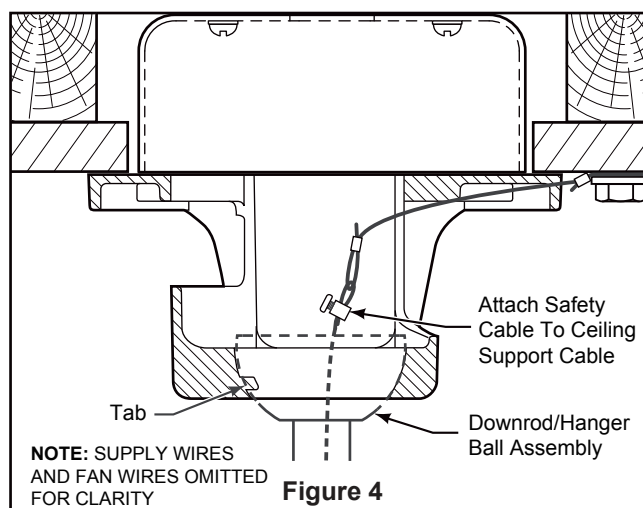

Figure 4
4. Insert downrod into the downrod support on top of the motor. Install the clevis pin by aligning the holes in the downrod support with holes in the downrod. Secure clevis pin with hairpin clip. Tighten the two set screws with nuts in the downrod support. (Figure 4)
4. Carefully lift the fan and seat the downrod/hanger ball assembly onto the hanger bracket that was just attached to the outlet box. Be sure the groove in the ball is lined up with tab on the hanger bracket. (Figure 4)
5. Attach the safety cable to ceiling support cable. Slide cable clamp and washer onto safety cable (from fan). Place the end of cable through the loop of ceiling support cable. Pull as much cable through loop as possible. Feed end of cable into clamp hole and firmly tighten screw. (Figure 4)
3. Connect green wires from hanger bracket, hanger ball and ground from supply using wire connector. Connect black wire from receiver unit marked "AC IN L" to black supply wire using wire connector. Connect white wire from receiver unit marked "AC IN N" to white supply wire using wire connector. Connect white wire from receiver unit marked "TO MOTOR N" to white wire from fan using wire connector supplied with receiver unit. Connect black wire from receiver unit marked "TO MOTOR L" to black wire from fan using wire connector supplied with receiver unit. Lastly, connect blue wire from receiver unit to the blue fan light wire using wire connector supplied with receiver unit. (Figure 4)
- 4. For use with light kit (A). Connect the 2 pin connector from the LED kit to the 2 pin connector from motor assembly. (Figure 4)
- 4. To set the remote code in the same positions as the receiver, use a small screwdriver or ball point pen (neither included) to slide dip switches firmly up or down. (Figure 4)